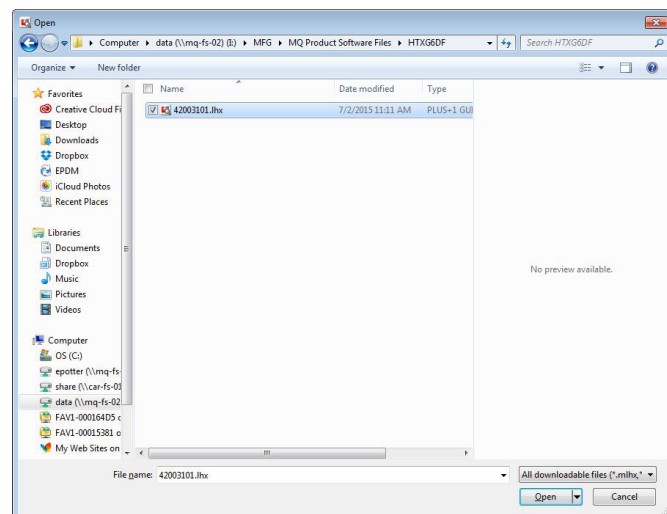

Figure 25. Select File 420031 Screen
7. Select file 420031__*.LHX file (* represents current revision of file) and click open (Figure 25).